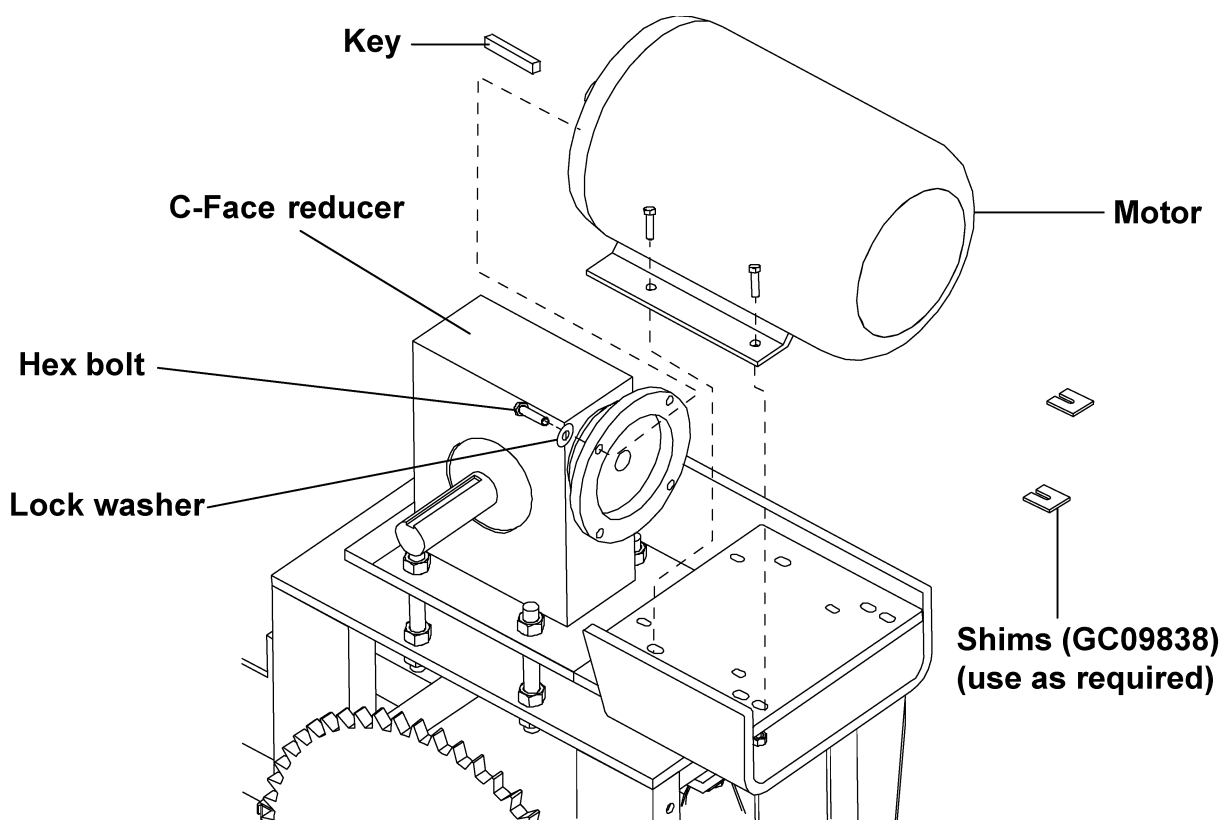

Figure 5P
A. Bolt the C-face motor to the reducer using hex bolts, lock washers and a key. (See Figure 5P on Page 33.) (See the note on Page 33 for bolt size.)